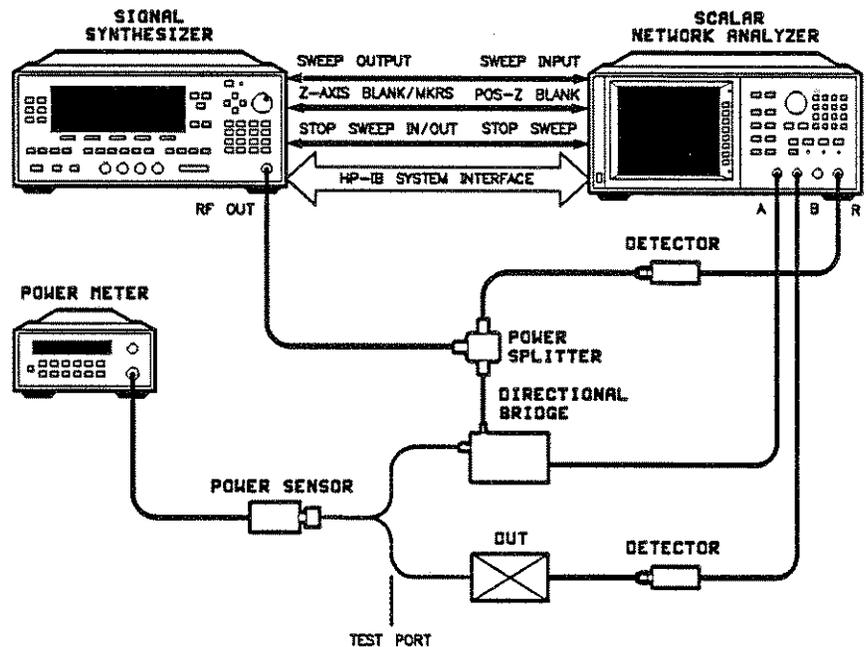

Figure 1-21. Scalar System Configuration
The following example demonstrates how to setup a scalar analysis measurement (using an HP 8757 Scalar Network Analyzer) of a 2 to 20 GHz test device such as, an amplifier. User flatness correction is used to compensate for power variations at the test port of a directional bridge. Follow the instructions to set up the synthesizer, then configure the system as shown in Figure 1-21.
1. The equipment setup shown in Figure 1-21 assumes that you have followed the steps necessary to correctly level the configuration. If you have questions about external leveling refer to earlier paragraphs titled, "Externally Leveling the Synthesizer."